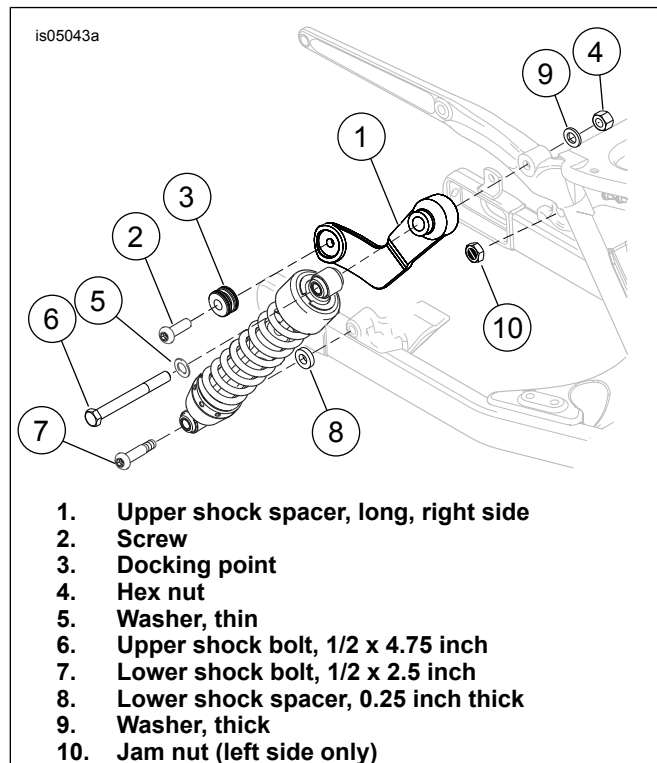

Figure 4. Install Shock Absorber (2008-Later Models)
1. See Figure 4. Assemble a screw (2) and docking point (3) to each upper shock spacer (1) as shown. Tighten to 28–37 N·m (21–27 ft-lbs).
2. Install the new upper shock bolt (6) with thin washer (5) through the upper eye of the shock and slide on the new right side shock spacer (1), as shown, orienting the arm of the upper shock spacer (1) so that it is directly behind the shock.
3. Install thick washer (9) and nut (4) to upper shock bolt (6).
5. Install shock absorber to the rear fork with the new lower shock bolt (7) and shock spacer (8) between the shock and the rear fork. Install jam nut (10). Tighten the lower shock bolt to 41–61 N·m (30–45 ft-lbs).